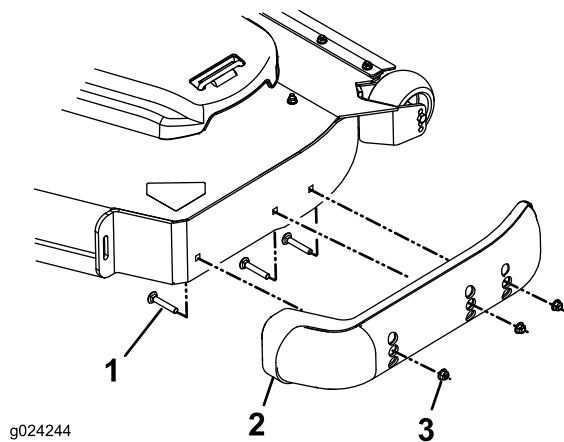

Figure 30
3. Remove the carriage bolts and nuts from each skid (Figure 30).